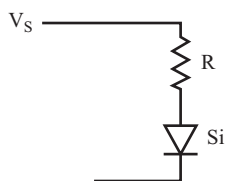

FIGURE 12.1
18. In the circuit shown in Figure 12.1,  $V_s = 5\text{ volts}$  and  $R = 1\text{ k}\Omega$ . Find the current through the diode,  $I_D$ . \_\_\_\_\_
19. For the circuit shown in Figure 12.1,  $V = 12\text{ volts}$  and  $R = 100\text{ ohms}$ . Find  $I_D$ . \_\_\_\_\_